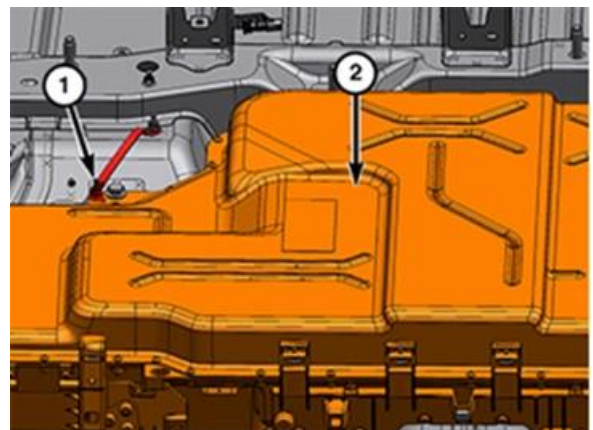

Figure 34 – HV Battery Fastener and Ground Cable
- 37. Remove the fastener (1) and the chassis ground cable from the HV battery (2) (Figure 34).
32. Connect the three HV wire harness connectors (1) (Figure 34).